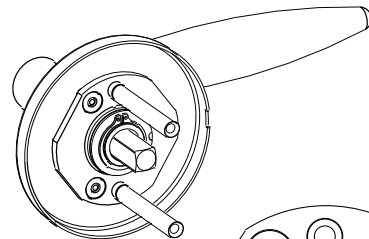

Figure 5-5P
1. Thread adapter plate hub into lever and fully tighten. (Figure 5-5P)